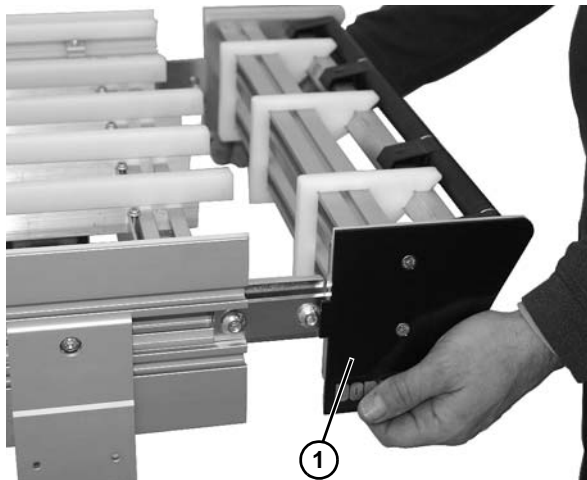

Figure 91
3. Remove idler tail assembly (Figure 91, item 1).